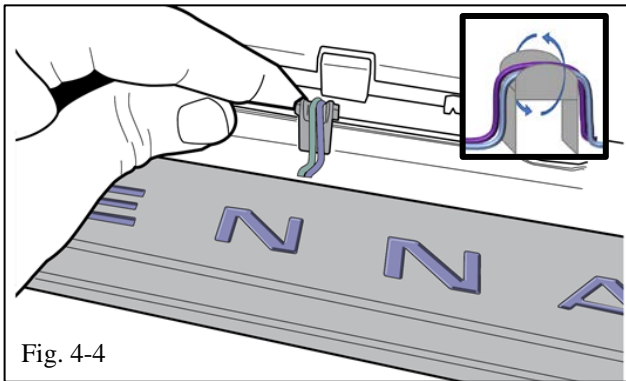

Fig. 4-4
(e) Place one pinch weld bridge on the pinch weld in the area where the cable exits the door sill (Fig. 4-4).
(1) Secure the door sill cable to the pinch weld bridge by looping electrical tape (Fig. 4-4).
(2) Cradle the door sill cable in the pinch weld. Reinstall the weather seal over the pinch weld bridge. (Fig. 4-4).